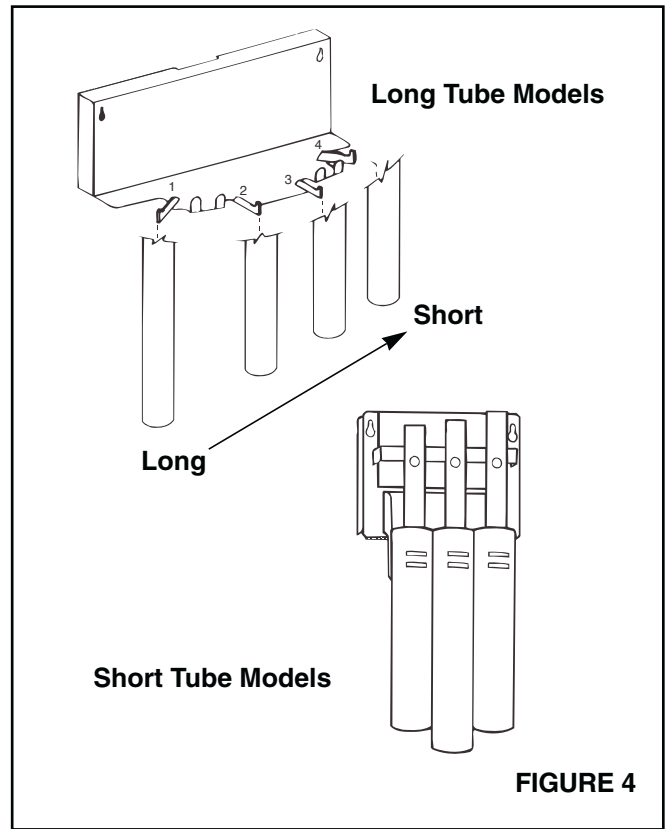

FIGURE 4
1. Refer to Figure 4. Hang tubes onto hanger bracket hooks so that the longest tube is at the left and the shortest at the right. Adjust tube supports on hanger brackets so plungers strike tubes to produce proper tone quality.